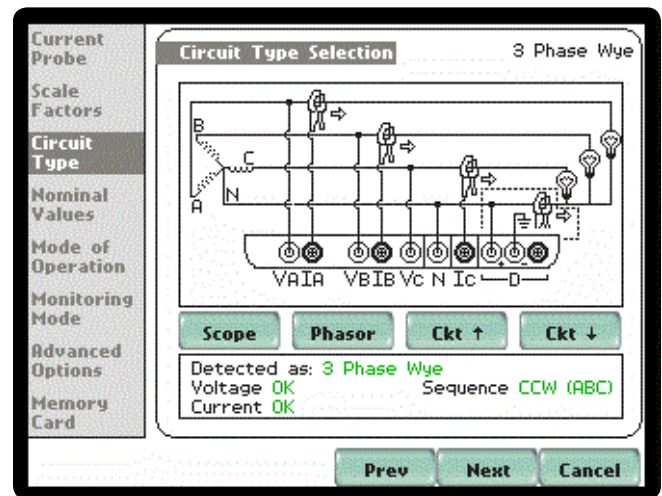
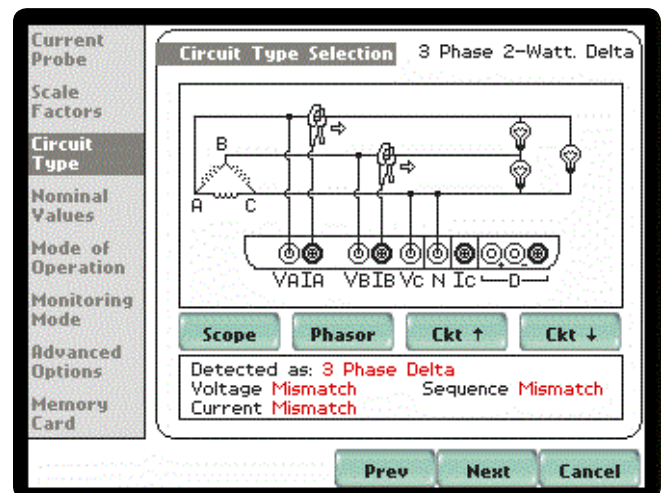

Figure 2a. Determining the connections for an energy analyzer. (3-phase WYE circuit shown)
Figure 2b. Determining the connections for an energy analyzer. (3-phase DELTA circuit shown)
Connecting the analyzer depends on the circuit type. A single-phase circuit has two wires (L, N), so according to the (N-1) approach, it requires one wattmeter. A split (2) phase has three wires (L1, L2, N) and requires two wattmeters. There are two common types of three-phase circuits, Wye and Delta with the difference being the reference used for measurements. A Wye circuit is the simplest using Neutral as the measurement reference. A Wye circuit has four wires (A, B, C, N) and requires three wattmeters. Delta, having only three wires (A, B, C) is more complex since there is no Neutral or other fixed measurement reference. Following the typical procedure, two wattmeters are required and one phase is chosen as the reference, with phase C being the most common choice, as shown in Figures 2a and 2b.
*The EP1 can directly connect to any circuit operating at 600VAC/DC or less. Medium voltage (MV) or high voltage (HV) circuits will require a PT or other voltage transducer to safely step down the voltage below 600VAC and into the measurement range of the instrument.*
*It is also able to automatically detect the circuit type to simplify settings. For example, the EP1 screen shot in Figure 2a illustrates when it is connected to a Wye circuit. The image shows the circuit type automatically detected as "3 Phase Wye" and shows the voltage and current connections are "OK." The screen capture in Figure 2b shows that the circuit type manually changed to "3 Phase 2-Watt Delta" is incorrect, which is indicated by the "Mismatch" indicators in red.*